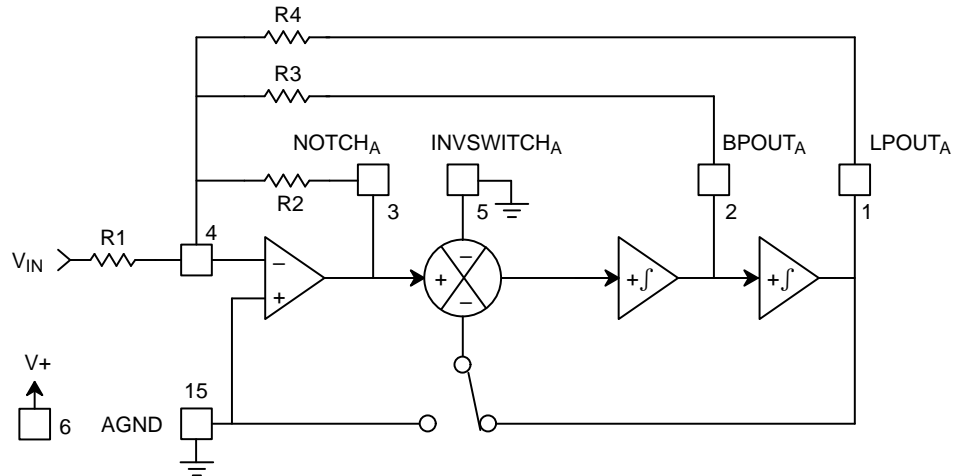

Figure 14. Mode 2
Mode 2 provides adjustment of the center frequency of the band pass and low pass filters. This is done through the use of the feedback resistor R4. Please note that in Mode 2, the feedback path of the low pass filter output is through R4 to the inverting input of the operational amplifier, Pin 4 (17) as well as to the inverting input of the switched summing circuit. *Figure 14.* provides the detail for connection of the external resistors for side A of the XR-1010. Mode 2 is best suited for notch filter applications since the clock-to-corner ratio is reduced for the other shape.